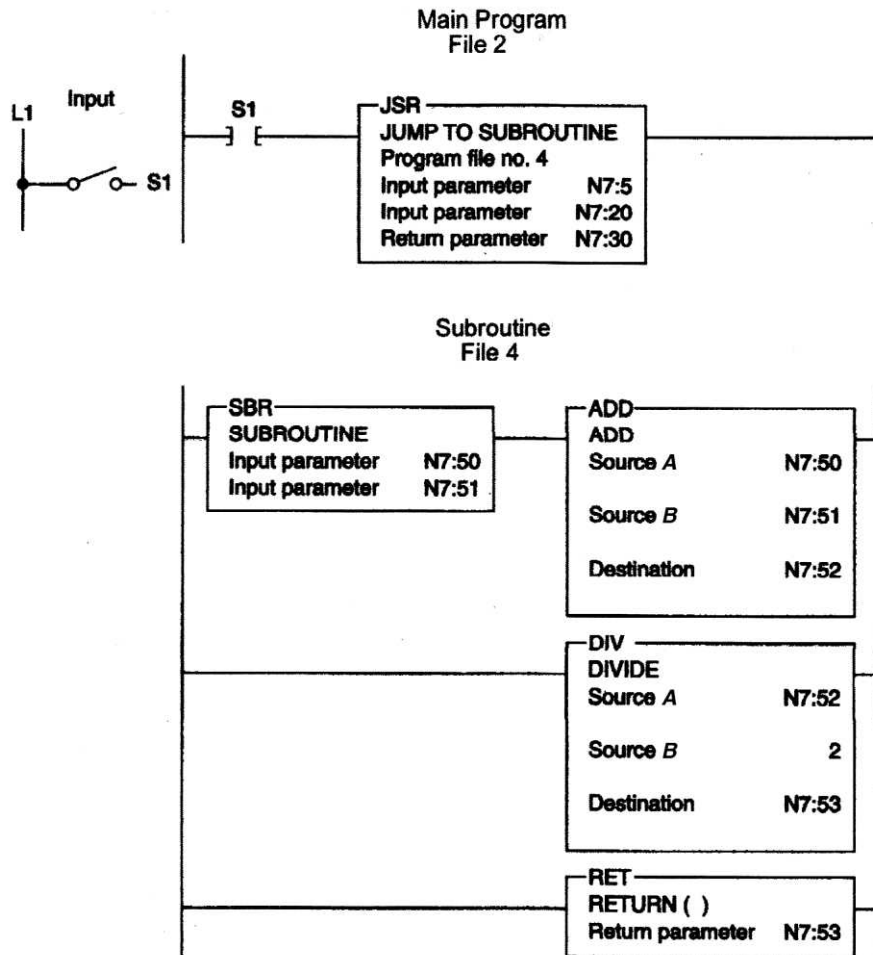

Figure 9-19 Program for assignment 11.
11) Construct the example of the subroutine instruction (SBR) and the return instruction (RET) program shown in Figure 9-19. The purpose of the program is to find the average value of N7:5 and N7:20 and store the result in N7:30. This is accomplished by passing parameters to the subroutine and doing the math in the subroutine, and then returning the answer to the main program through the RET instruction. The operation of the program can be summarized as follows: